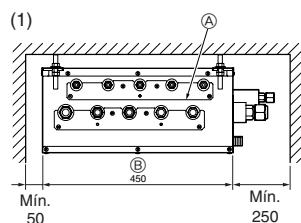

Fig. 4-4
#### (1) Vista Frontal (Fig. 4-4)